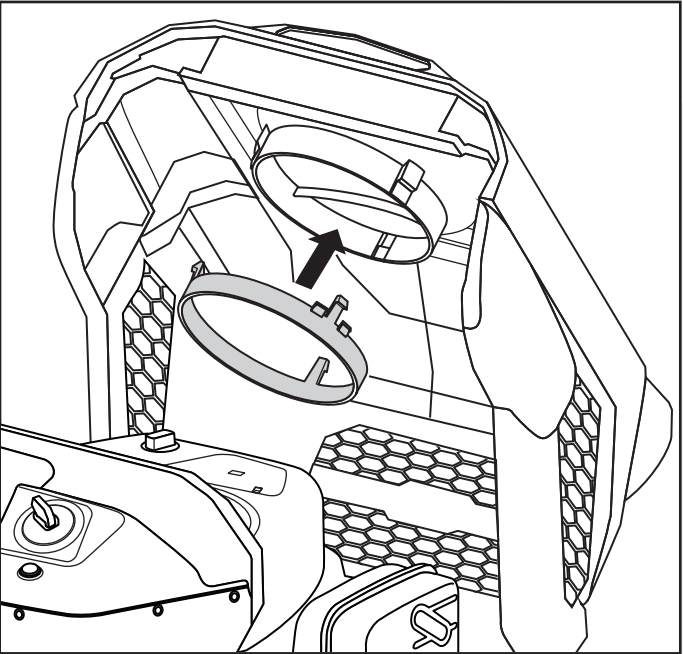

Fig. 3
- 1. Open the engine shroud and install the air duct ring into the inside of the engine shroud. (Fig. 3)